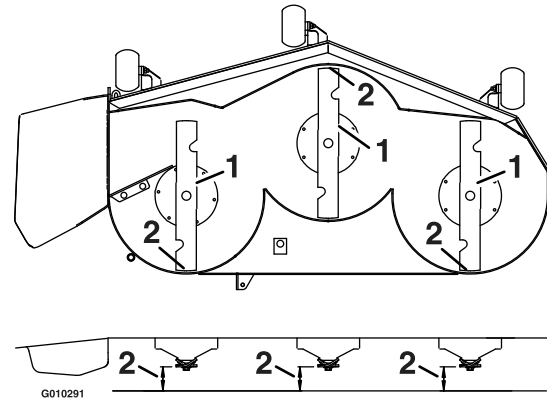

Figure 25
8. Carefully rotate the blades so they are facing front to rear (Figure 25).
9. Measure from the tip of the front blade to the flat surface and the tip of the rear blade to the flat surface (Figure 25). If the front blade tip is not "R" (see Block Height and Rake Table in **Deck Leveling**) lower than the rear blade tip, adjust the front deck hanger.